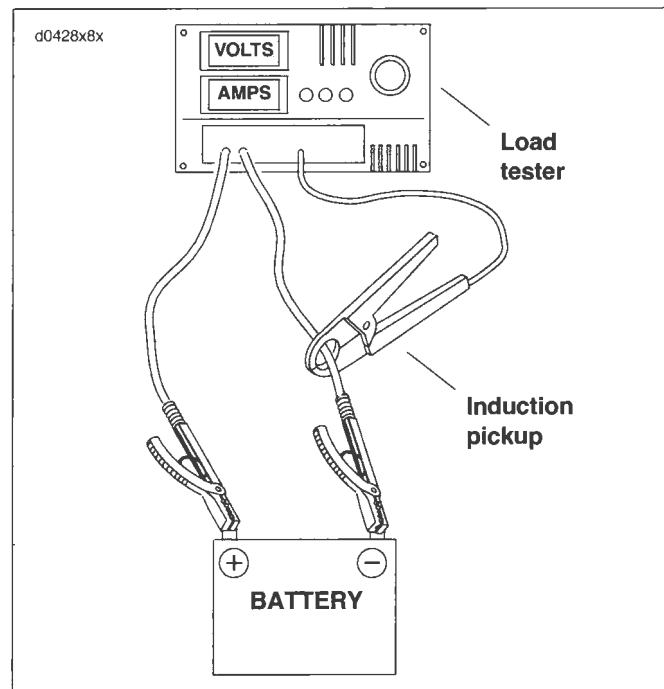

Figure 8-30. Load Test Battery
4. See Figure 8-30. Connect tester leads to battery posts and place induction pickup over negative (black) cable.